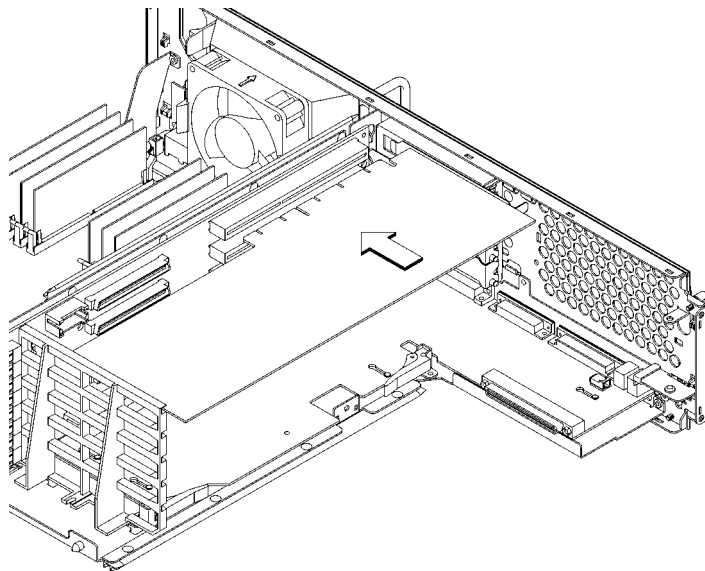

Figure 46
- 9 Slide the option boards into the slots that they came out of, as shown in Figure 46. Make sure that the hole in each board's handle aligns with the pin on the back panel.